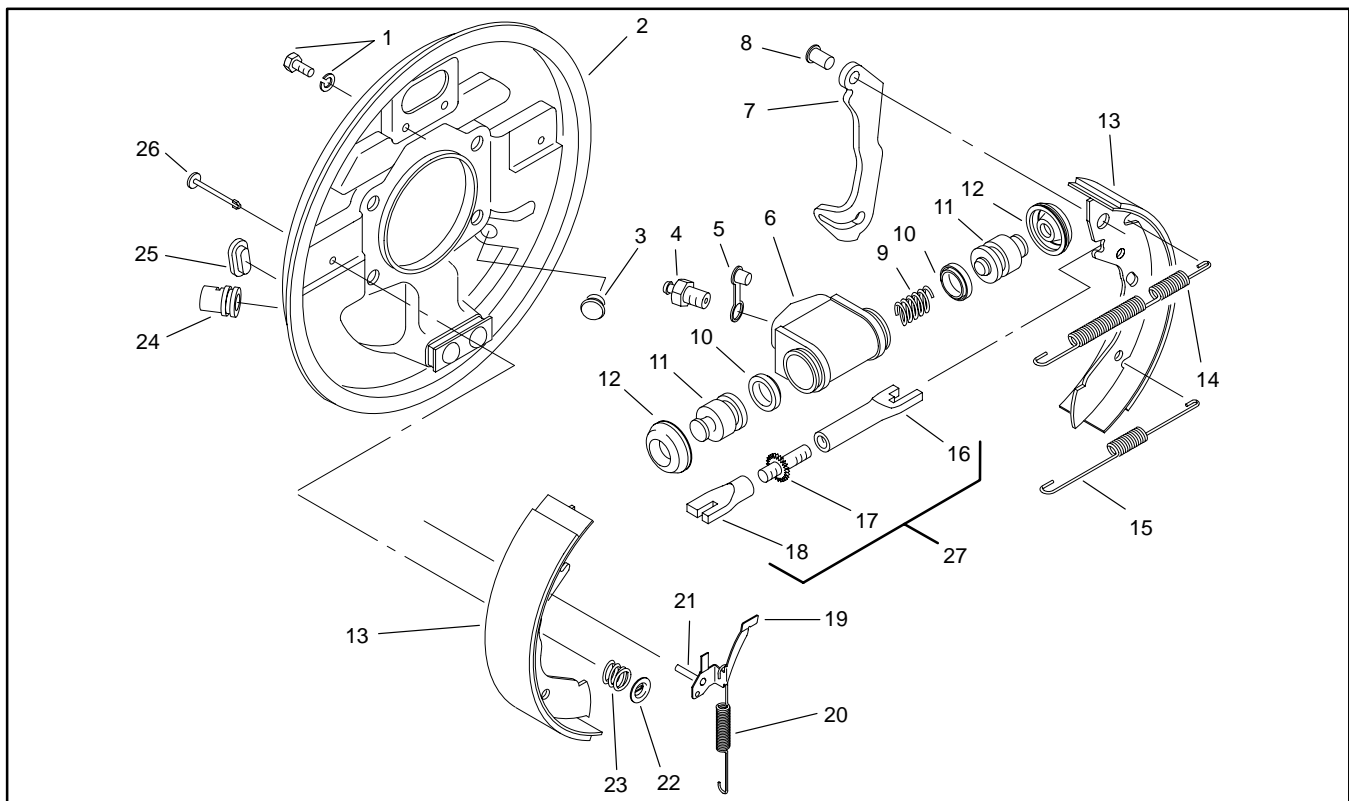

Figure 6
2. Partially loosen lug nuts (1). Jack up and secure front wheel off the ground (see Jacking Vehicle in Chapter 1 – Safety). Remove lug nuts and wheel from the brake drum (32).
**Note:** If the brake drum sticks to the brake shoes (13) during removal, loosen brake shoes from the drum by turning bolt adjuster (17) (Fig. 6).
3. Remove brake drum (32) from the cap screws (3) and stub axle (31).
4. Remove flange lock nut (36) and flat washer (35) from the threaded shaft of the CV joint (15) and stub axle (31).
5. Pull stub axle (31) and bearing (14) cone from the axle housing (28) and the splined end of the CV joint (15). Make sure large spacer (30) and small spacer come out with the stub axle.
**Note:** It may be necessary to remove the brake assembly (5) from the axle housing (28) for servicing parts such as the brake cylinder assembly.
6. If necessary, remove brake assembly (5) as follows:
A. Disconnect brake tube (8) from the brake assembly (5) and brake hose (13). Plug front brake hose (13).
B. Remove brake assembly from the axle housing (28) by removing the four cap screws (6) and lock washers (7) from the housing.
## Disassembly (Fig. 6 and 7)
## Inspection (Fig. 6)
#### Assembly (Fig. 6 and 7)
1. If the brake assembly (5) was removed from the axle housing (28), install assembly as follows:
A. Secure brake assembly to the axle housing with four cap screws (6) and lock washers (7).
B. Unplug front brake hose (13). Connect brake tube (8) to the brake assembly and brake hose.
2. Insert small spacer and then large spacer (30) onto the stub axle (31). Make sure bearing (14) cone is sufficiently greased.
3. Insert stub axle (31), bearing (14) cone, and spacers into the axle housing and onto the splined end of the CV joint (15).
4. Secure stub axle (31) to the threaded end of the CV joint (15) with the flat washer (35) and flange lock nut (36). Torque flange lock nut from 170 to 200 ft-lb (23.5 to 27.7 kg-cm).
5. Install brake drum (32) to stub axle (31) with cap screws (3).
6. Adjust brake shoes (13) as follows (Fig. 6).
A. Align access hole in the brake drum with the bolt adjuster (17).
B. Rotate bolt adjuster so adjuster assembly (27) length makes both brake shoes (13) contact the brake drum.
8. Secure wheel to the brake drum (32) with five lug nuts (1). Lower front wheel to the ground. Torque lug nuts from 45 to 55 ft-lb (6.2 to 7.6 kg-m).